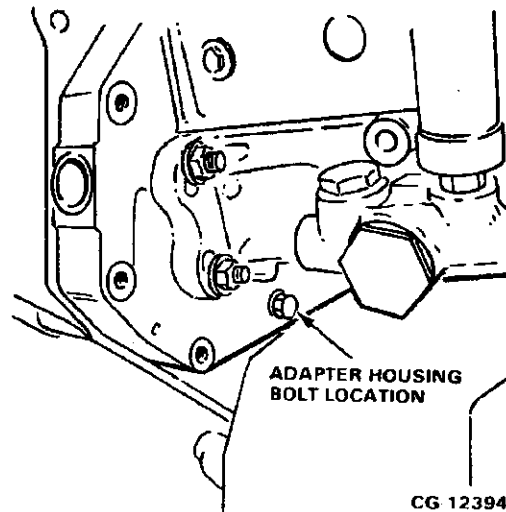

Figure 11.70. Remove Bottom/Rear (In-Board) Adapter Housing Bolt
15. Remove the adapter housing bolt and washer located at the bottom/rear (in-board) side of the adapter housing. Refer to Figure 11.70.